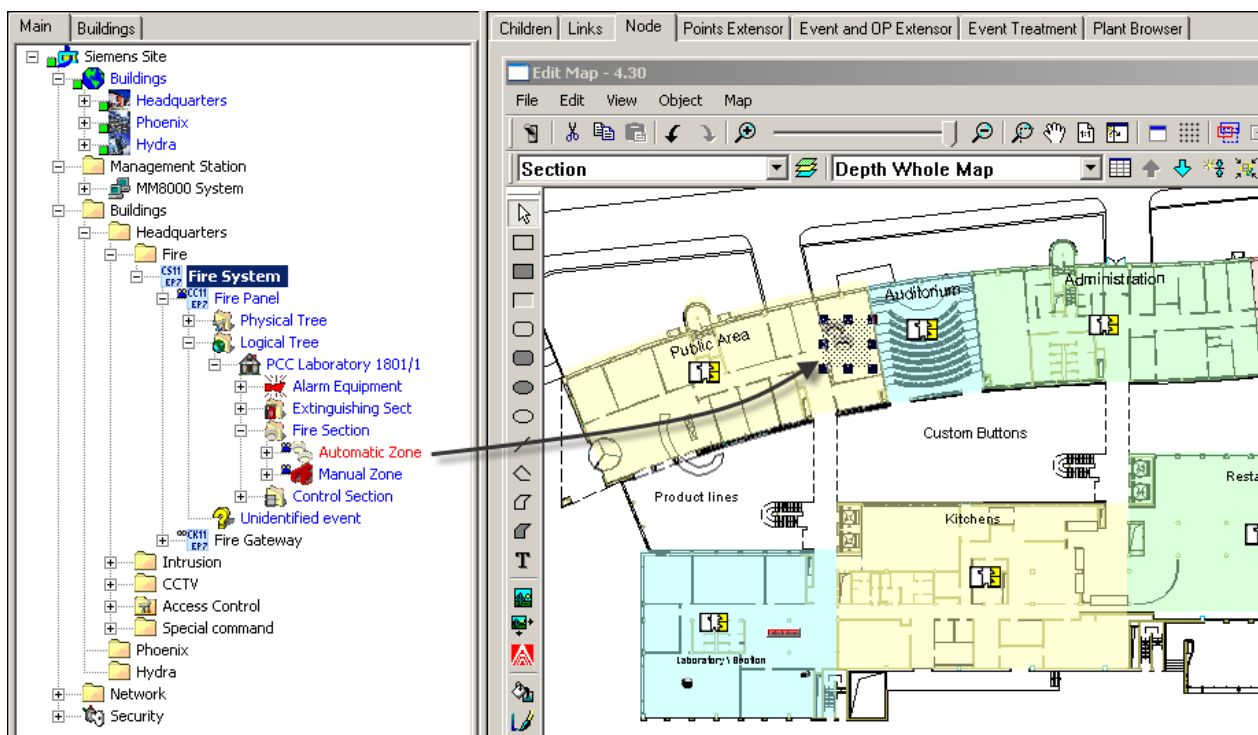

Fig. 9 Drag and drop, set default object size
4. Drag points from the tree, one at a time, and drop them onto the correct position on the map. (See Fig. 9.) The selected objects can be data points as well as sequence command points.